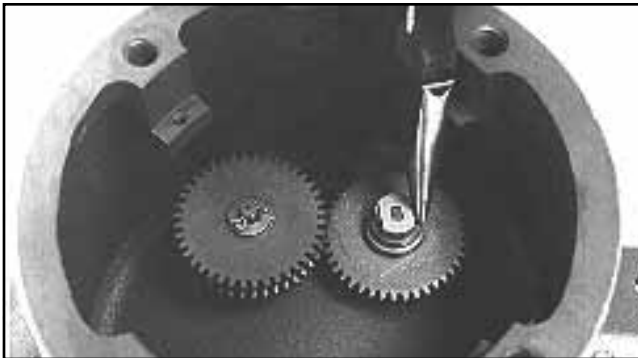

Figure 54
2. Remove cotter pin and drive washer, Figure 54.